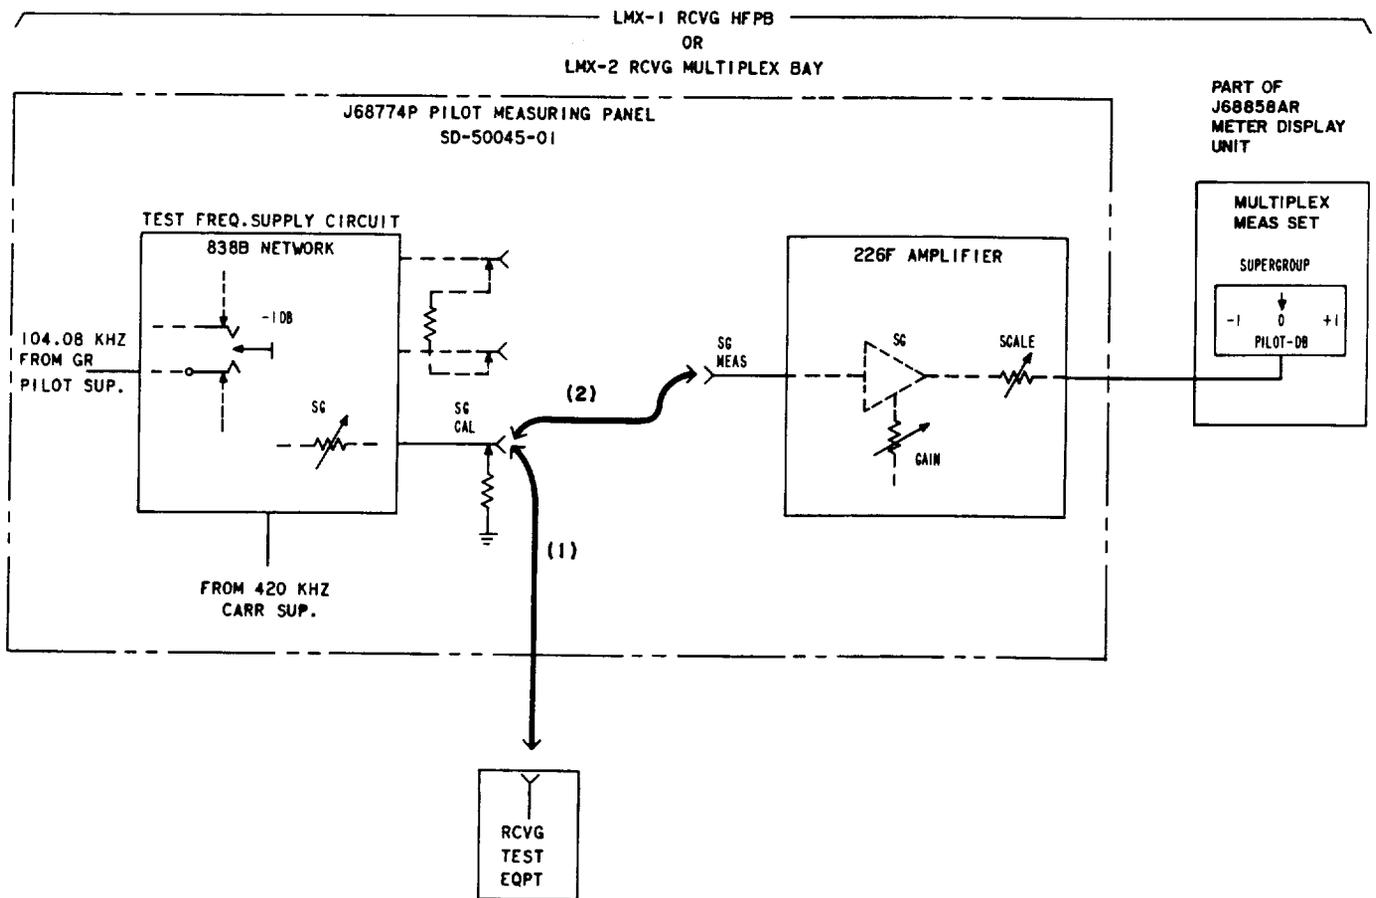

Fig. 1—315.92-kHz Supergroup Pilot Measuring Circuit Calibration (Using J68858 Scanner)
Note 2: Access to the 838B network and 226F amplifier units on the J68774P pilot measuring panel (Fig. 1) is required when performing this test.
- 3 Connect the RTE to the SG CAL jack [patch (1), Fig. 1].
6	Remove patch (1), Fig. 1.
7	Connect the SG CAL jack to the SG MEAS jack [patch (2), Fig. 1].
15	Remove patch (2), Fig. 1.